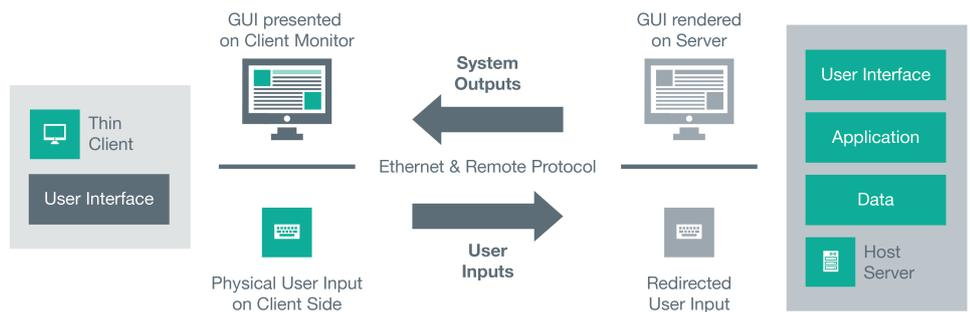

Figure 2.2: A thin client only provides the user interface to the user
To do this, a thin client has a minimalistic, usually embedded operating system (OS) and only provides drivers for the input and output devices (e.g., mouse, keyboard, touchscreen, and monitor) that are connected to the thin client. Additionally, installed communication protocols enable the exchange of the system inputs and outputs between the thin client and host. (See Figure 2.2.)